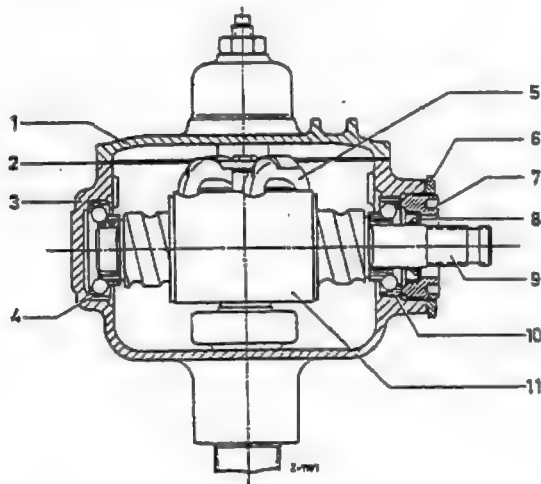

Fig. 46-4/1
1. Attach the steering to the assembly plate (25) which has been clamped in a vise (Fig. 46-4/2).
3. Check the steering worm for the specified end play (practically no play) (see Table in Job No. 46-0). The steering worm must turn easily, but there must not be any excessive play. If the steering worm does not move easily when the end play is adjusted correctly, disassemble the steering and check the bearing parts of the steering worm (Fig. 46-4/1).